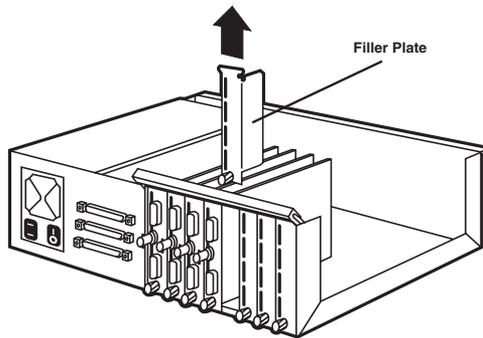

Figure 4-5. Removing a Filler Bracket.
7. Remove the filler plate from the next available slot. Each unoccupied slot in RISC Router Expandable has a protective filler plate that must be removed before you install an expansion card. See Figure 4-5.